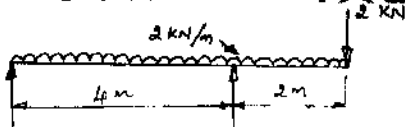

Fig.Q5(b)
- b. Draw the shear force and bending moment diagrams for the overhanging beam carrying uniformly distributed load of 2 kN/m over the entire length and a point load of 2 kN as shown in Fig.Q5(b). Locate the point of contra flexure. (14 Marks)